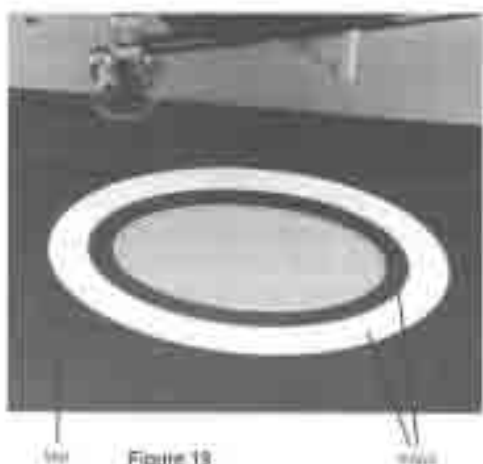

Figure 19
4. Reassemble the mats by taping together alternate-color oval rings from the back. See Figure 19.